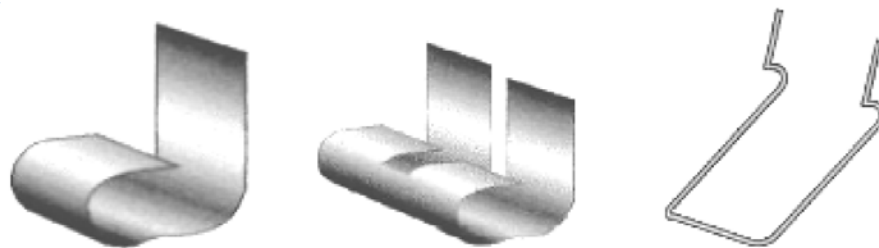

Fig. 9 – Single clamp, dual clamp, connection brace
- ✓ **Bench work tools or welding equipment are not applied** for the erection. Fence elements are attached by means of clamps and connection braces (see Fig. 9).